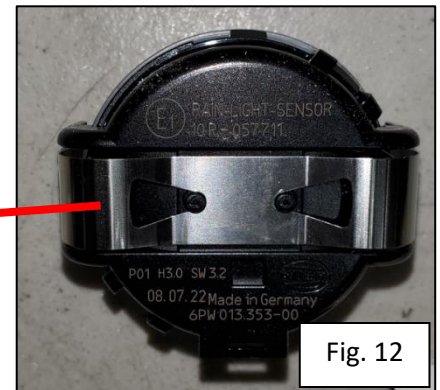

Fig. 12
- 7. With the rain sensor mounting ring secured, install the rain sensor to the mounting ring. (Figure 12)
- C. Using the (2) metal clips on the side of the rain sensor, clip the rain sensor to the mounting ring.